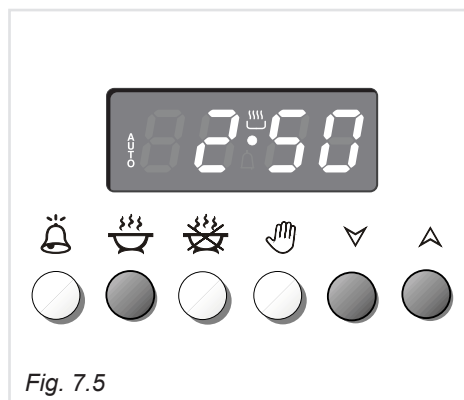

Fig. 7.5
1. Set the length of the cooking period by pushing the  button and the  button to increase, or  to decrease if you have passed the desired time (fig. 7.5). The **AUTO** and the  symbol will illuminate.